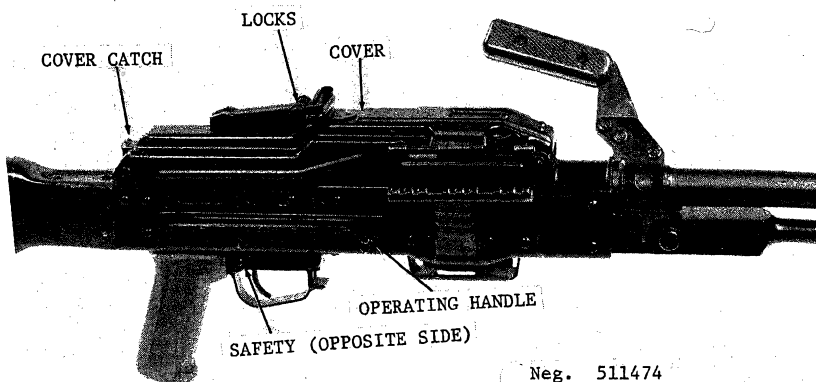
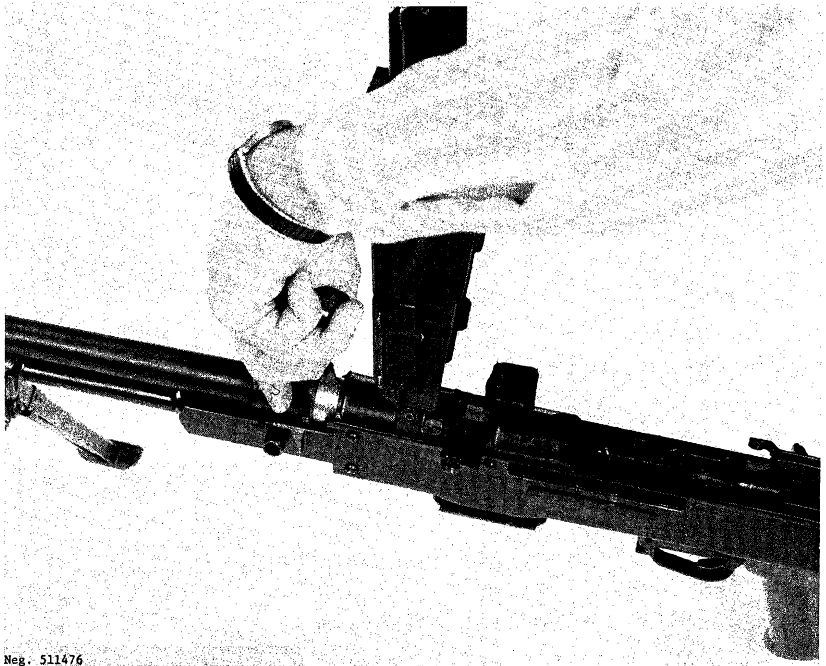

Figure 175. Soviet PKB receiver detail.
Figure 177. PK barrel change.
b. Load the PK/PKS ammunition belt as described in paragraph 175b. Press the cover catch forward (fig 175) and lift the cover. Place the belt on the feedway, insuring that the rim of the first cartridge is in the cartridge gripper (located at the center
rear of the feedway). Close the feed cover. Rotate the safety forward (figs 175 and 176). Pull the operating handle fully rearward, then thrust it fully forward.
c. Press the locks in on the rear sight slide (fig 175) and move the slide rearward until the edge of the slide aligns with the figures that correspond to the range in hundreds of meters. To fire the weapon, swing the safety forward, aim, using a normal sight picture, and press the trigger. The PK will fire as long as the trigger is held and ammunition is fed. The PKT is normally fired by an electric push button in the tank. In emergencies, press the safety catch forward, then press the butterfly trigger (fig 176) down. The bolt will remain open between bursts and will close on an empty chamber when the last round of the belt is fired.
e. Continuous firing will cause the barrel to overheat. If this occurs, unload (d above), press the cover catch (fig 175) and open the feed cover; then swing the feedway up (it pivots on the same pin as the cover). Slide the barrel lock out to the side. Pull the barrel carrying handle away from the barrel; this will lever a hot barrel out of its seat in the receiver (fig 177), then pull the barrel forward, completely off the gun. Insert a new, cool barrel, seat it fully, press the barrel lock fully in, and close the feedtray. Reload (b above) and resume fire.